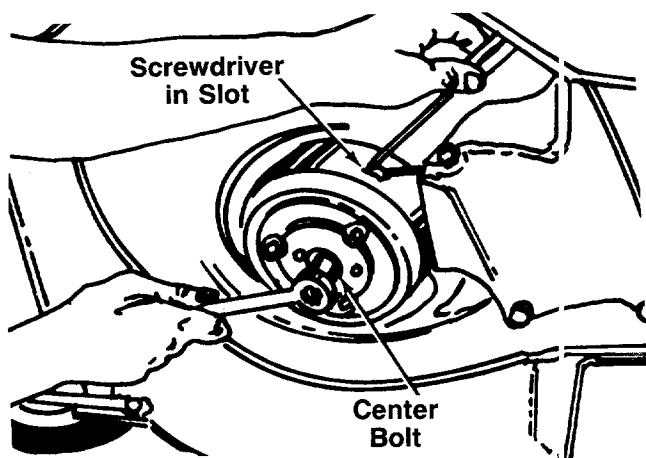

FIGURE 23.
- a. Insert a screwdriver into the slot provided in the blade brake/clutch housing where the control cable enters housing. See figure 23.